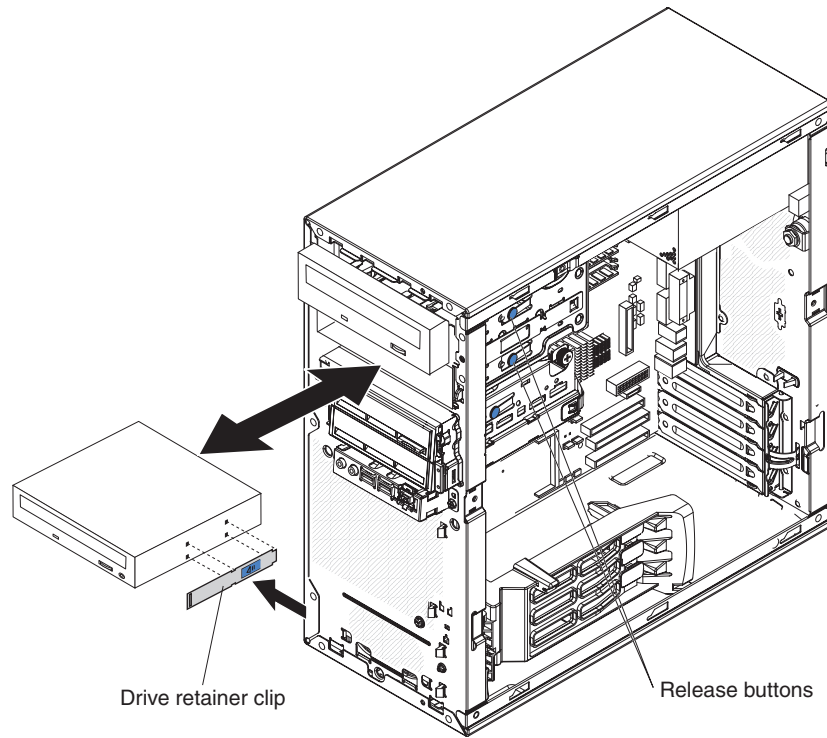

Figure 32. Removing a drive from bay 1 or 2
7. Release the drive from the bay by pressing the blue release button on the side of the drive; then, pull the drive out of the computer (see Figure 32 on page 99).